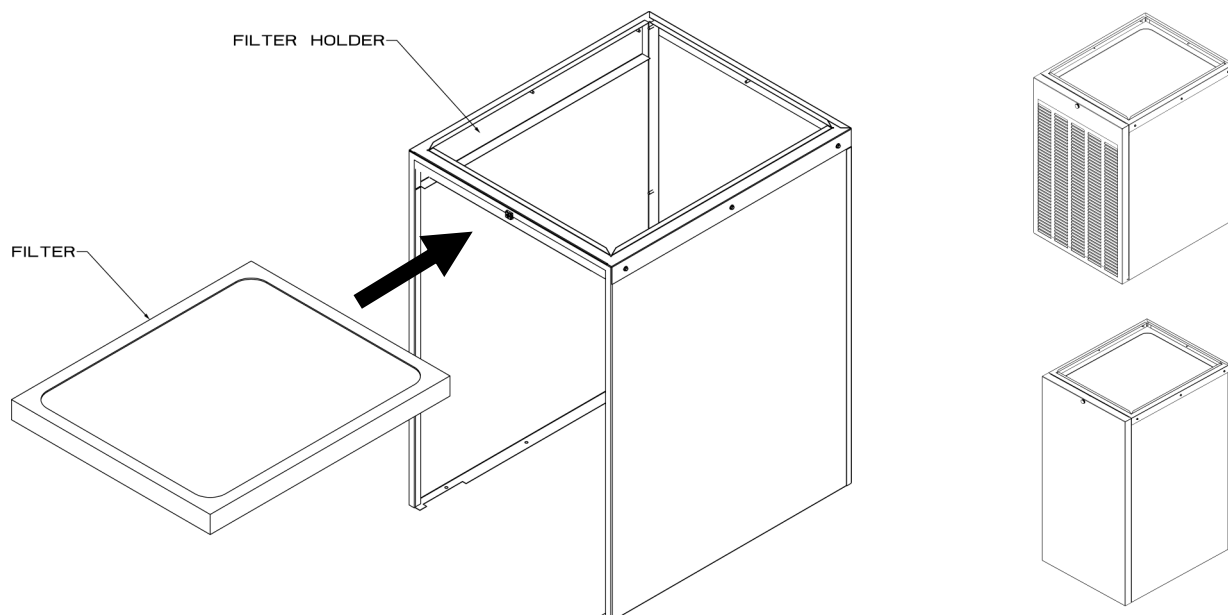

FIGURE 3: FILTER PLACEMENT IN MHCDSO23 / MHCDSO30 / MHCDSO40 / MHCDO23 / MHCDO30
3. Place the top panel in the floor up-side down, place the left side panel and filter holder bracket against the top panel and install the three (3) screws.
4. Place the right side panel and filter holder bracket against the top panel and install the three (3) screws.
5. Turn the coil cabinet assembly upside down, place the rear panel against it and install the seven (7) screws.
6. Fix the front tie bar against top panel and install it from the top with (2) screws.
8. Insert the Filter over filter bracket as shown in Figure 3.